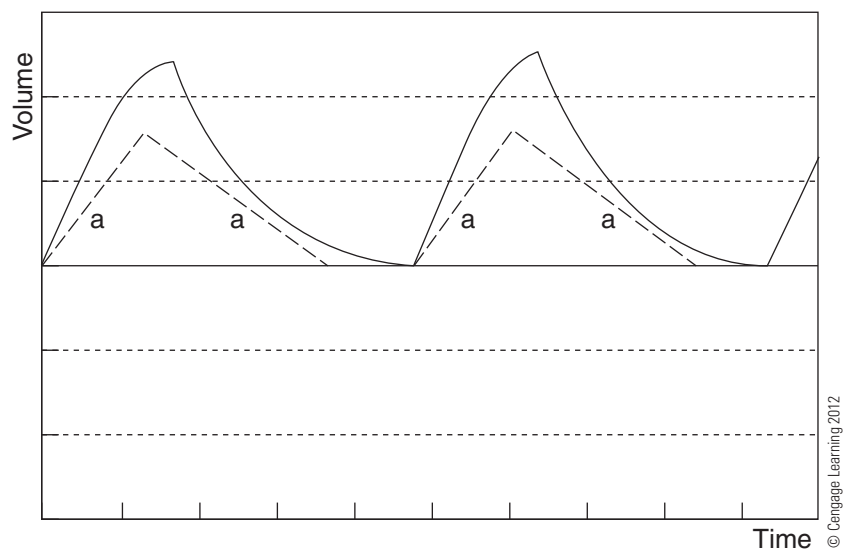

Figure 3-7 Increased Resistance
- Figure 3-7** Increased Resistance